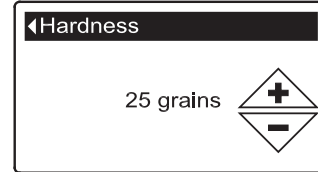

FIG. 42
5. Press the SELECT (O) button to display the Hardness screen (See Figure 42).